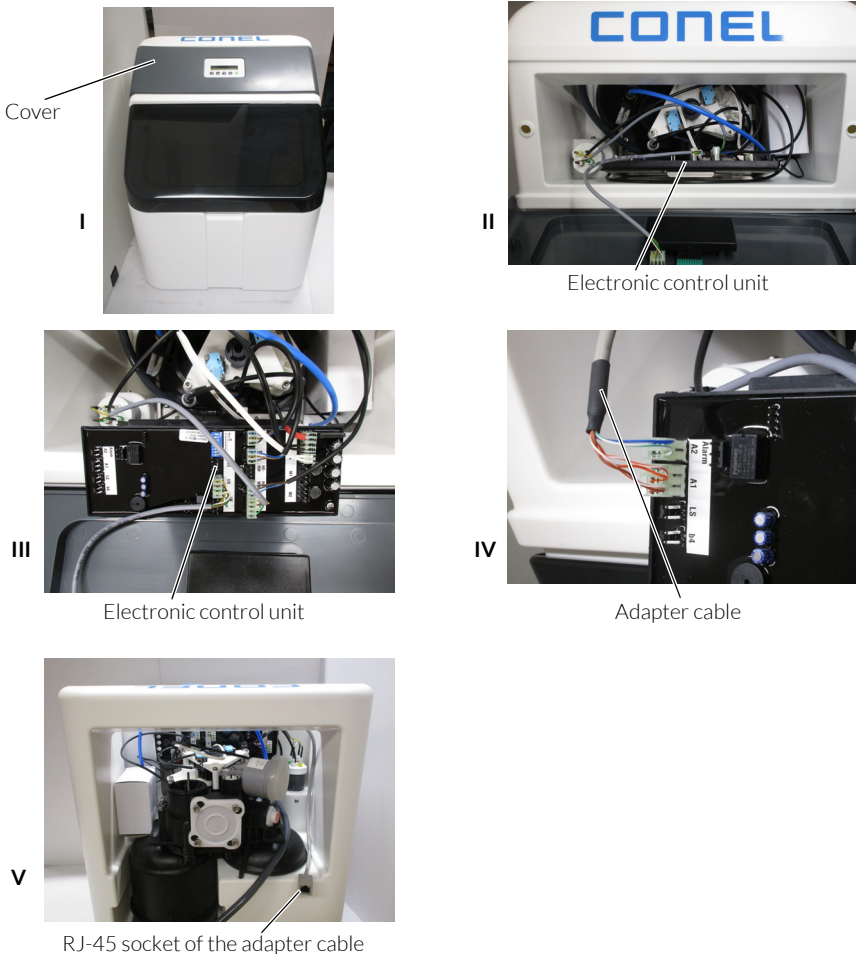

Fig. 3: Connecting the adapter cable to the CLEAR SOFT device
- / Take the cover off in an upwards direction (see fig. 3 I and 3 II)
- / Pull the electronic control unit out of its mounting (see fig. 3 III).
- / Plug both plugs of the adapter cable on to plug-in positions A1 and A2 of the electronic control unit (see fig. 3 IV).
- / Lead the adapter cable to the rear out of the device (see fig. 3 V) and secure with cable ties.